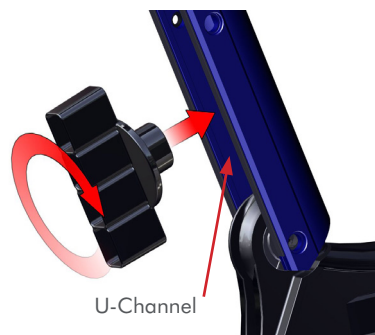

Figure 4
STEP 5 Insert and twist the spreader block to remove the **Top & Bottom U-Channels** from the **Stern Bracket**. **FIG 4**